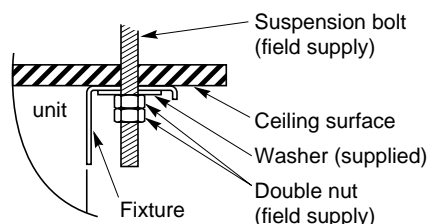
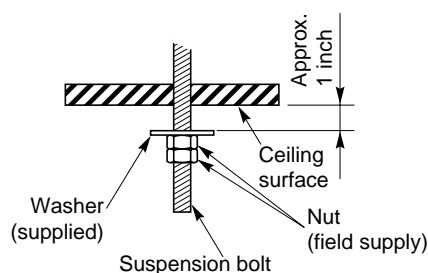

Fig. 3-61
Fig. 3-63
- (6) Preparation for suspending the indoor unit. The suspension method varies depending on whether the unit is next to the ceiling or not. (Fig. 3-61 and 3-62)
- (7) Suspend the indoor unit as follows.
- (a) Mount a washer and two hexagonal nuts on each suspension bolt as shown in Fig. 3-63.